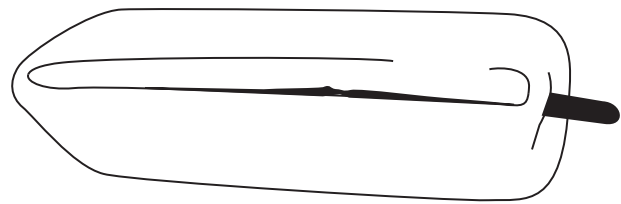

Fig. 2
3. Reinstall the cap on the stem to allow the air spring to hold the flat shape. Fold the spring into a hotdog shape as shown (Fig. 2).